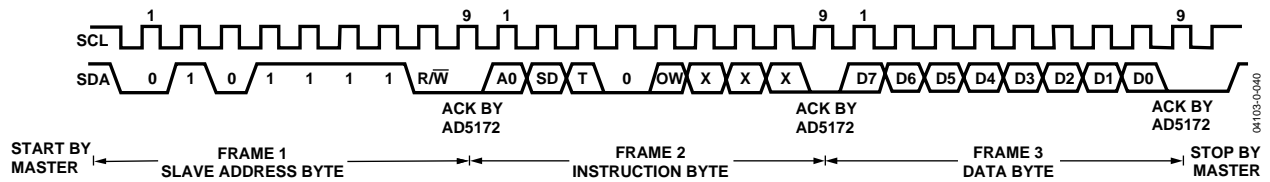
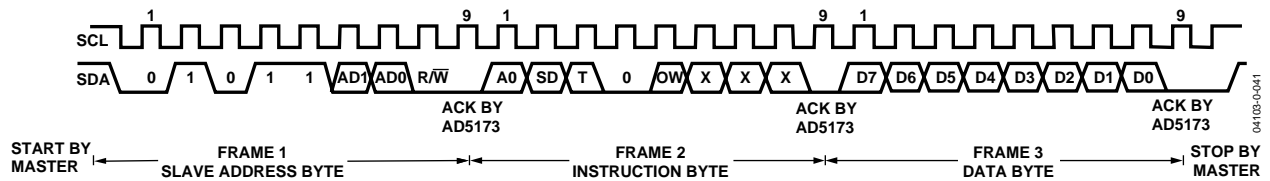
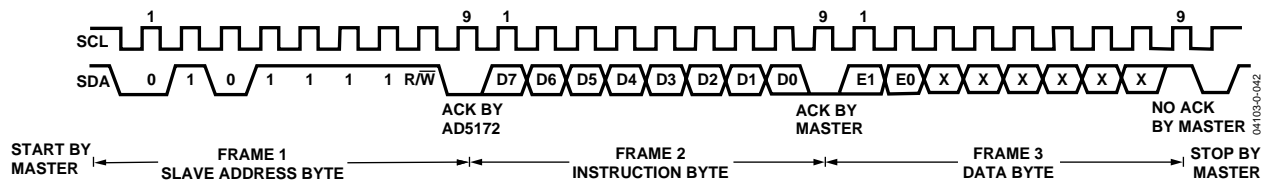
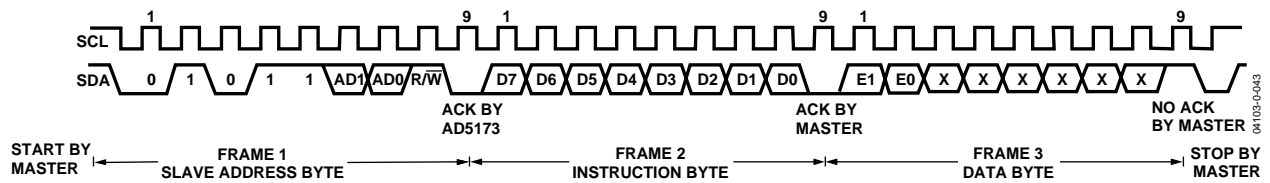

Figure 50. Writing to the RDAC Register—AD5172
Figure 51. Writing to the RDAC Register—AD5173
Figure 52. Reading Data from a Previously Selected RDAC Register in Write Mode—AD5172
Figure 53. Reading Data from a Previously Selected RDAC Register in Write Mode—AD5173
1. The master initiates data transfer by establishing a START condition, which is when a high-to-low transition on the SDA line occurs while SCL is high (see Figure 50 and Figure 51). The following byte is the slave address byte, which consists of the slave address followed by an R/W bit (this bit determines whether data is read from or written to the slave device). The AD5172 has a fixed slave address byte, whereas the AD5173 has two configurable address bits, AD0 and AD1 (see Figure 50 and Figure 51).
The remainder of the bits in the instruction byte are don't cares (see Figure 50 and Figure 51).
3. In the read mode, the data byte follows immediately after the acknowledgment of the slave address byte. Data is transmitted over the serial bus in sequences of nine clock pulses (a slight difference from the write mode, where there are eight data bits followed by an acknowledge bit). Similarly, the transitions on the SDA line must occur during the low period of SCL and remain stable during the high period of SCL (see Figure 52 and Figure 53).
Note that the channel of interest is the one that is previously selected in the write mode. In the case where users need to read the RDAC values of both channels, they must program the first channel in the write mode and then change to the read mode to read the first channel value. After that, the user must change back to the write mode with the second channel selected and read the second channel value in the read mode. It is not necessary for users to issue the Frame 3 data byte in the write mode for subsequent readback operation. Refer to Figure 52 and Figure 53 for the programming format.
Following the data byte, the validation byte contains two validation bits, E0 and E1. These bits signify the status of the one-time programming (see Figure 52 and Figure 53).
4. After all data bits have been read or written, a STOP condition is established by the master. A STOP condition is defined as a low-to-high transition on the SDA line while SCL is high. In write mode, the master pulls the SDA line high during the 10th clock pulse to establish a STOP condition (see Figure 50 and Figure 51). In read mode, the master issues a No Acknowledge for the ninth clock pulse (i.e., the SDA line remains high). The master then brings the SDA line low before the 10th clock pulse, which goes high to establish a STOP condition (see Figure 52 and Figure 53).